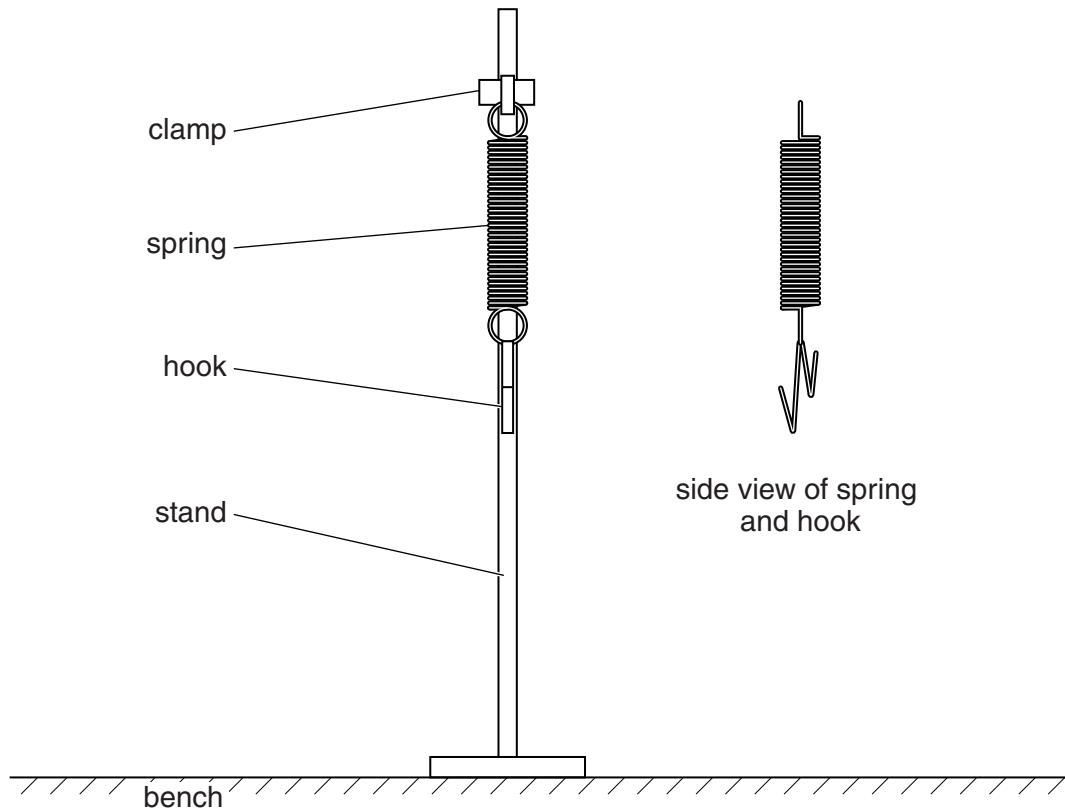

Fig. 1.4
- 5 The spring should be clamped vertically approximately 40 cm above the bench as shown in Fig. 1.4. The top of the spring should be held rigidly in the clamp and the hook should be hooked on to the bottom of the spring.